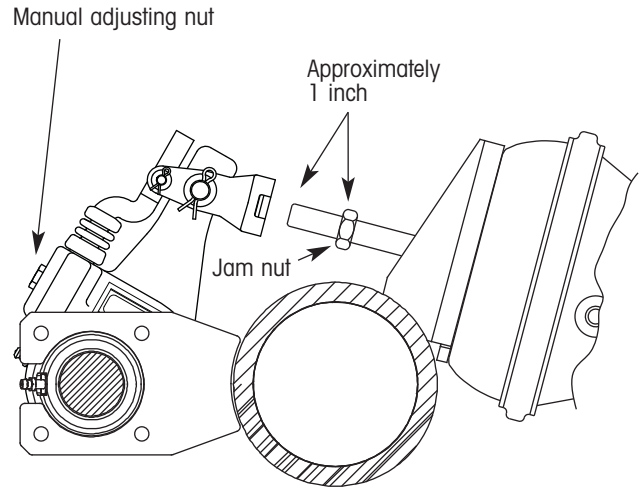

Figure 7. Installing the slack adjuster
5. Position brake actuator push rod jam nut approximately one inch away from the end of the push rod (figure 7).